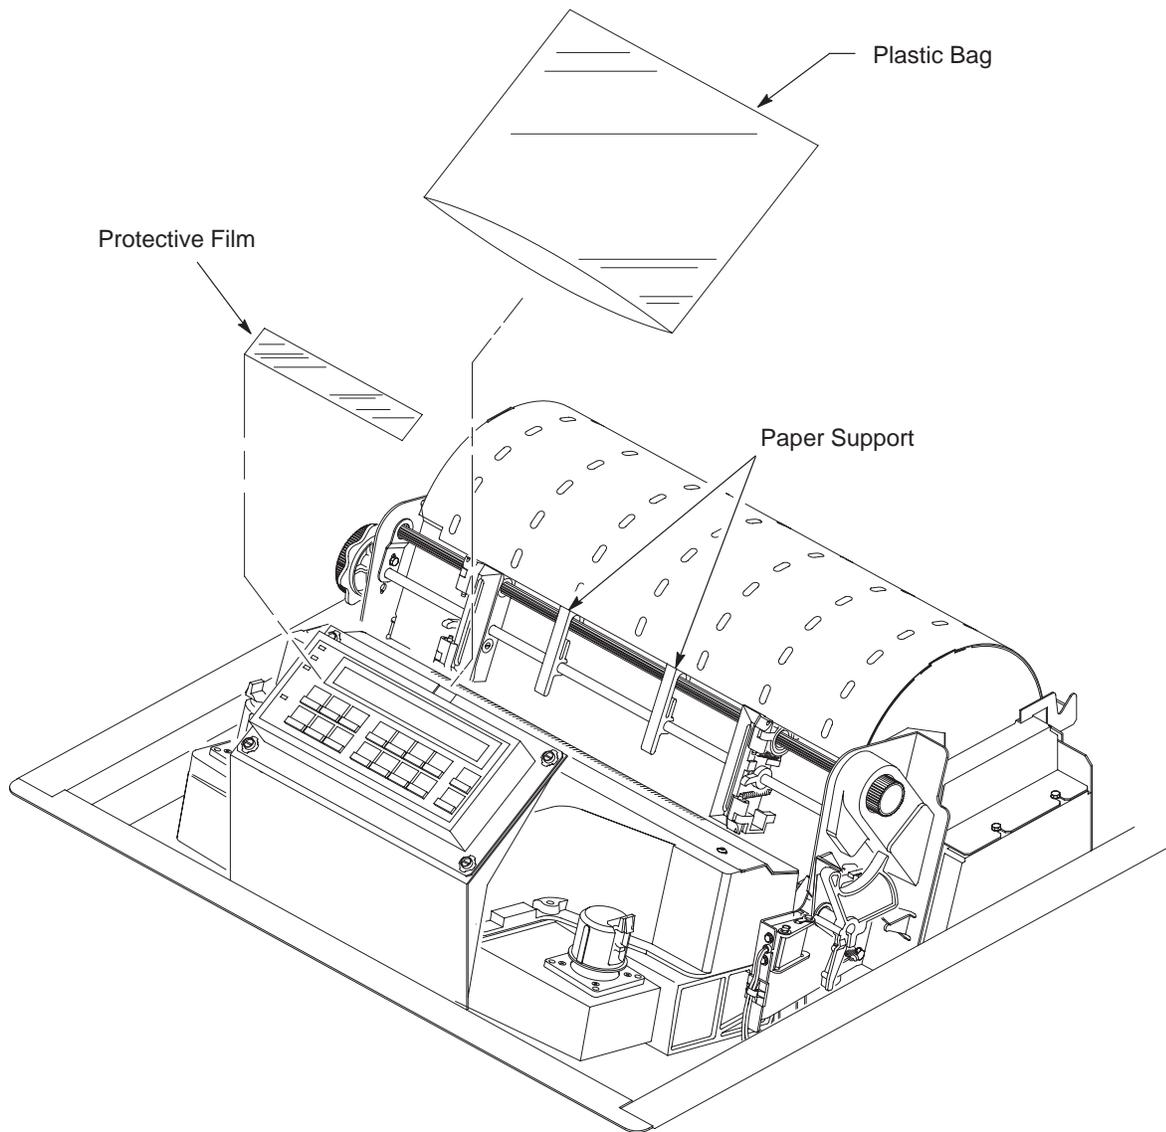

Figure 2–8. Removing the Protective Film
1. Slide the two paper supports toward the center of the support shaft. Position them so that they divide the space between the tractors into three approximately equal segments. (See Figure 2–8.)